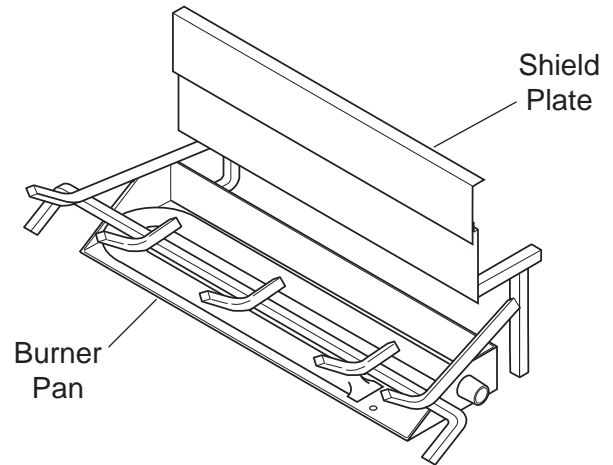

Figure 101 - Sliding Shield Plate Down Back of Burner Pan
1. Slide shield plate down back of burner pan. *See Figure 101.*